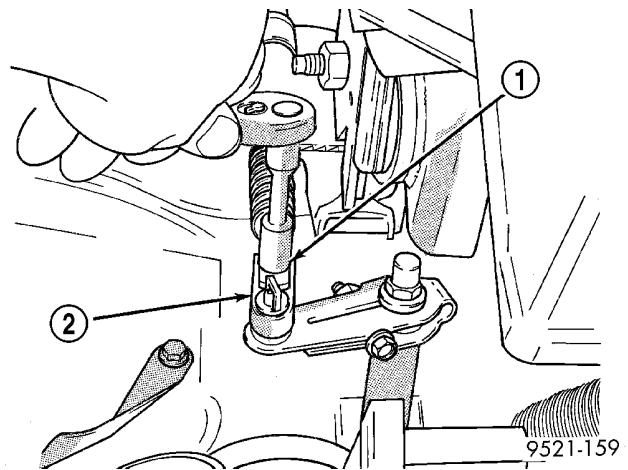

Fig. 172 Gearshift Cable Adjustment
(1) Park the vehicle on level ground and set the parking brake.
(2) Place the gearshift lever in park (P) gate position and remove key.
(3) Loosen the cable adjustment screw at the transaxle operating lever (Fig. 172).
(4) Pull the transaxle operating lever fully forward to the park detent position.
(5) Release the park brake, then rock the vehicle to assure it is in park lock. Reset the park brake.
(6) Tighten the cable adjustment screw to 8 N-m (70 in. lbs.). Gearshift cable should now be properly adjusted.
(7) Verify PRNDL indicator still displays the corresponding gear completely. If not, readjustment of PRNDL may be required.
(8) Check adjustment by using the preceding procedure.